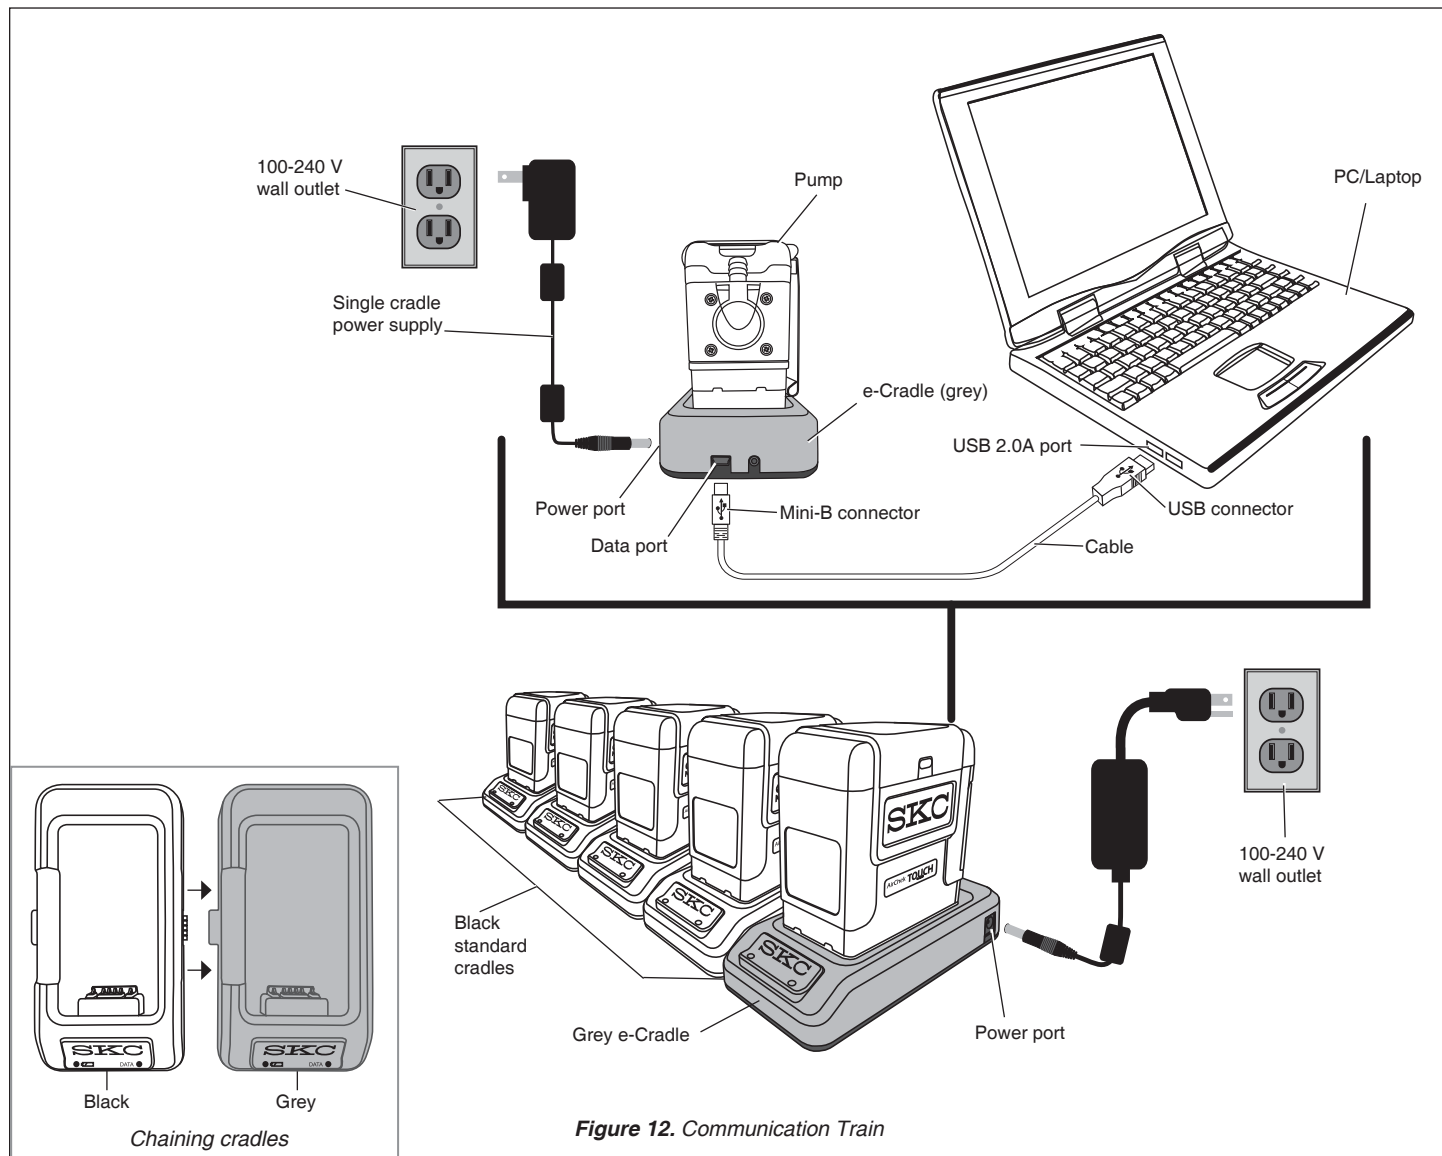

Figure 12. Communication Train
2. Create a Communication Train (Figure 12). Turn on pump(s).